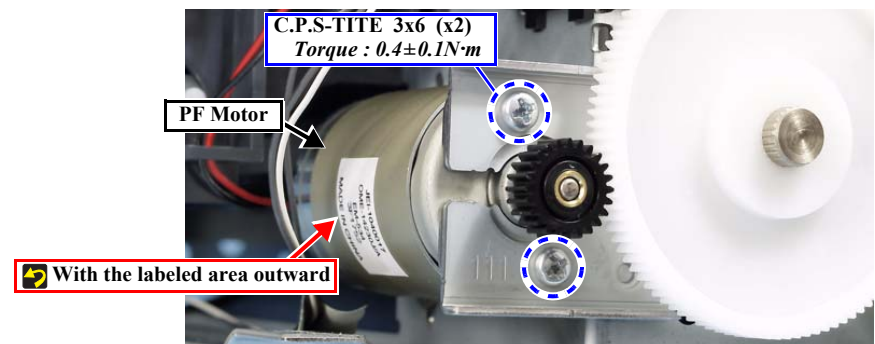

Figure 4-58. Removing the PF Motor
6. Remove the screws (x2) securing the PF Motor, and remove the PF Motor in the lateral direction. (Fig. 4-58)
- Install the PF Motor with its labeled area facing outward. (Fig. 4-58)